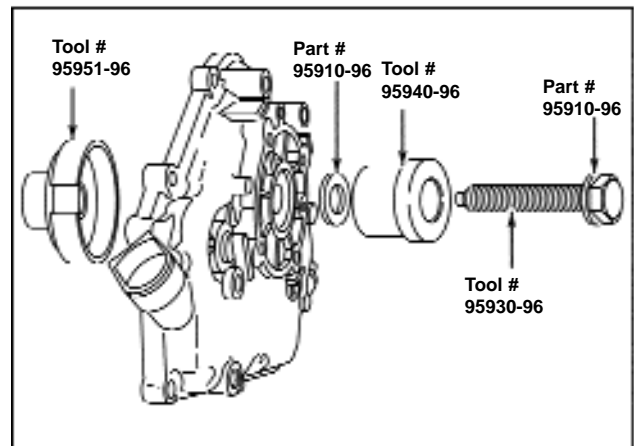

Figure 135 - Removing Bearing - PTO Side
6. Continue tightening screw until ball bearing is removed, Figure 135.